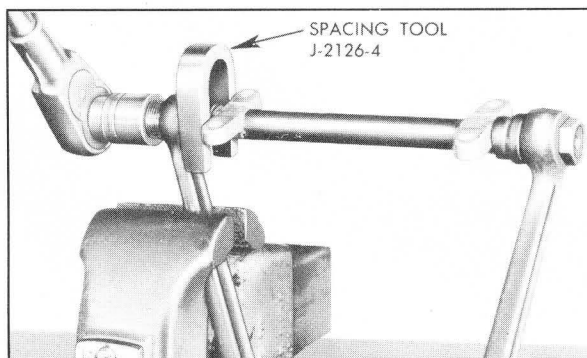

Figure 6-26—Installing Second Bushing
8. Screw the second bushing into place using socket wrench and ratchet. See figure 6-26. Shaft must be held to prevent turning while installing this second bushing; then check bushing with torque wrench tightening to a minimum 100 foot pounds. NOTE: Both bushings must have the hexagon heads tight against the arm bosses.